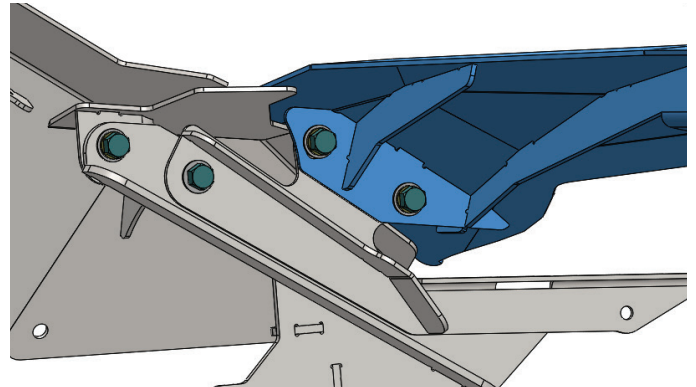

Figure 26
**15. Check for symmetry of the visor and both arms. Using a 7/32" Allen Wrench, fully tighten the six (6) 3/8" stainless steel button head screws with rubber washers.**
**17. Loosely install the four (4) 3/8"-16 bolts, flat washers and lock washers into the Cowl on both passenger and driver side. (Figure 26)**